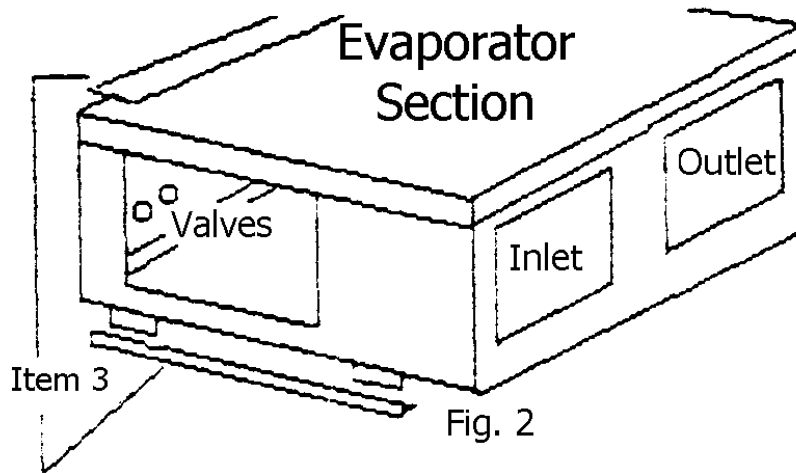

Fig. 2
1. Remove evaporator access panel (see Fig. 2)
3. Remove the unit top piece, removing only those screws, which attach the top piece to the two covers. (See item 3 Fig. 2)
5. Remove the two side cross-member angles. (See item 5, Fig 2)